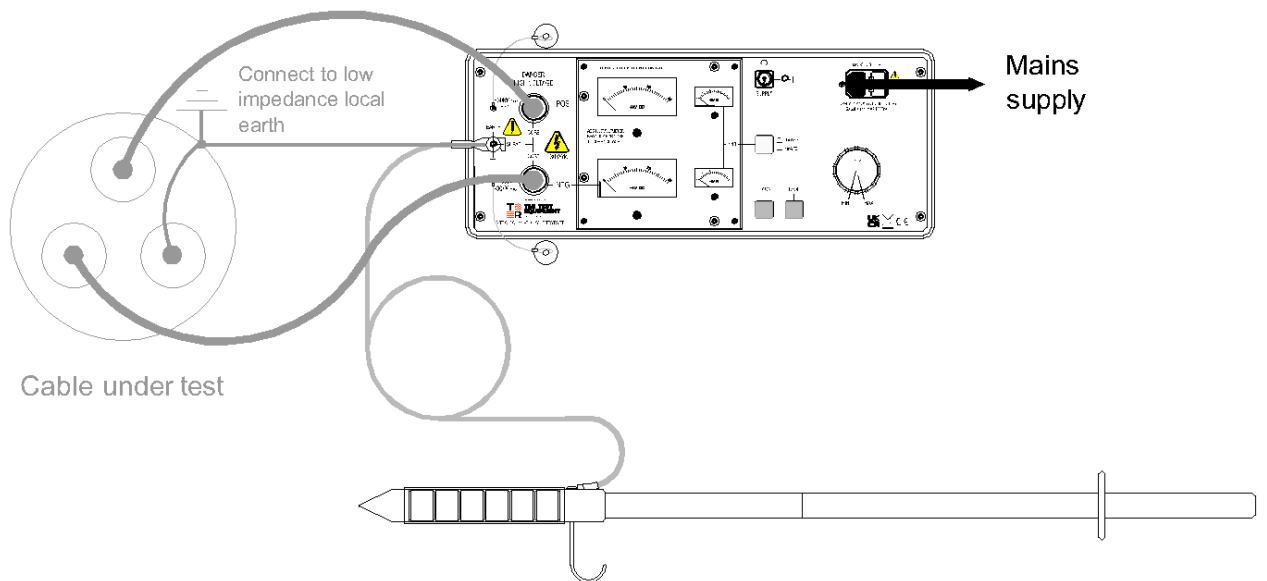

Figure 4 Connections for bipolar test
- For a bipolar test connect both the red/positive and black/negative HV leads to the output sockets on the PT30-10 and the test object as shown in figure 4.